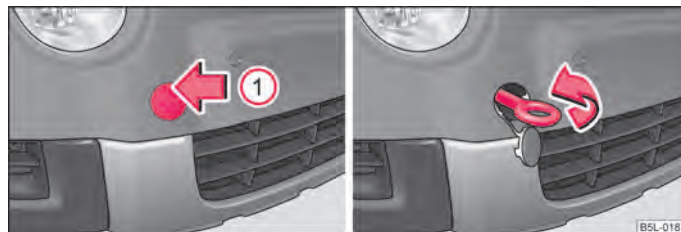

Fig. 175 Front bumper: Removing the cover/installing the towing eye
- Press on the upper half of the cover in direction of arrow ① ⇒ fig. 175.
- Screw in the towing eye by hand to the left up to the stop ⇒ fig. 175 - right and tighten it as much as possible. For tightening, we recommend that you use for example the wheel wrench, the lashing eye of another vehicle or a similar object which you can push through the eye.